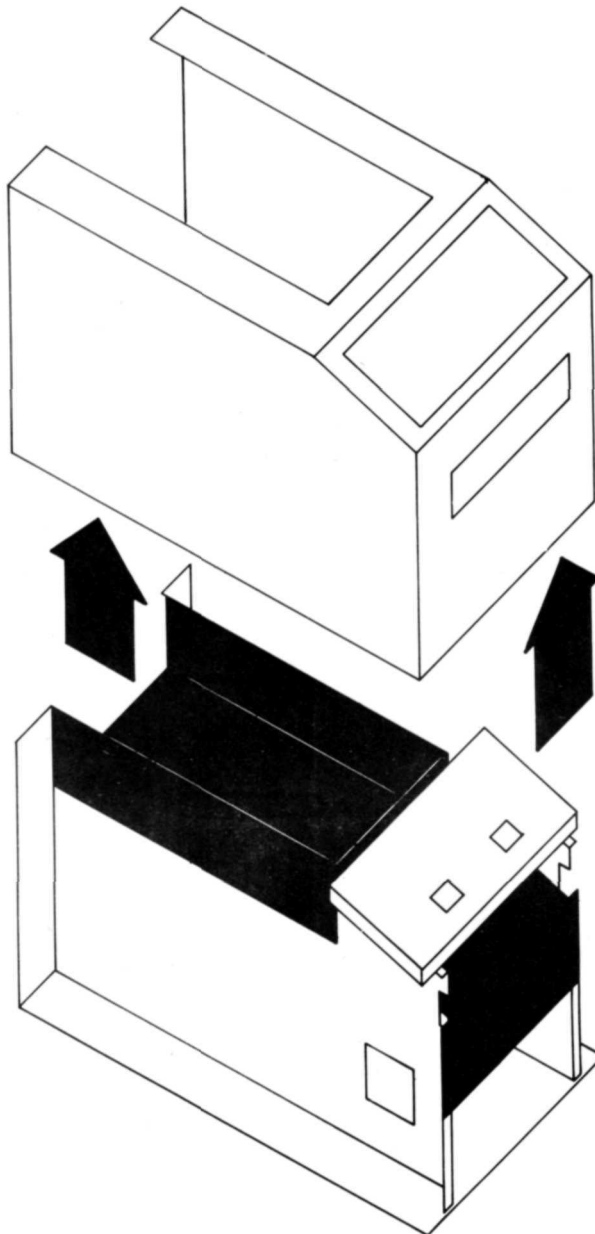

Figure 14. Removing the Housing
3. Carefully lift the Card Reader housing up over the bucket and off the chassis as shown in Figure 14.